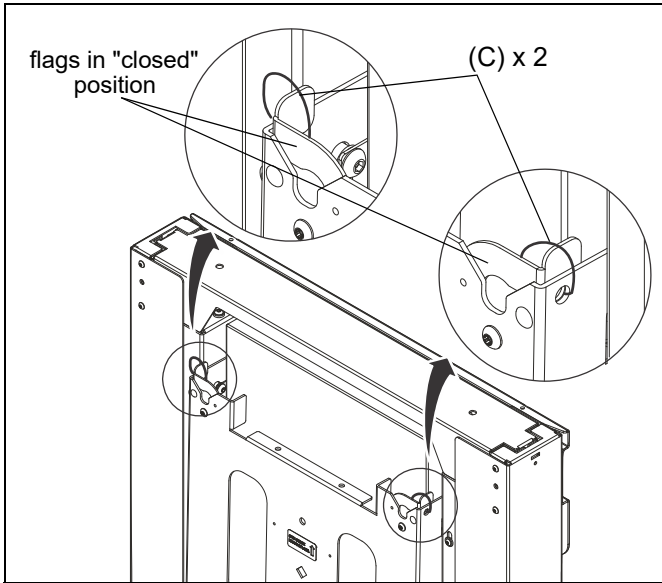

Figure 38
**IMPORTANT !** : Manufacturer recommends using cable ties (C) or padlock (not included) to secure the latching flags in closed position on both sides. (See Figure 38)